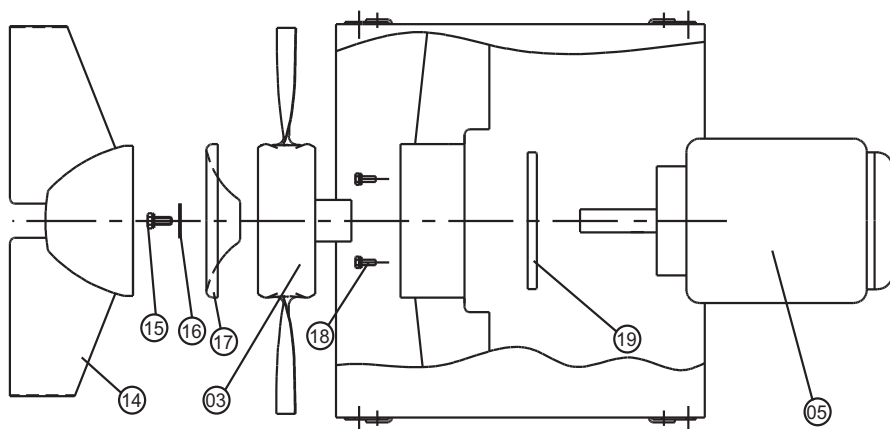

Figure 3. Dismounting/Mounting of motor
- 4 **ARR:** Remove screws in guide plates of centre fairing and pull out centre fairing figure 3, item 14.
- 5 Remove centre screw of impeller item 15 and centre disc figure 3, item 16.
- 6 **AUR:** Remove hub cover figure 3, item 17.
- 7 Dismount impeller figure 3, item 03 by means of a puller fastened in the two threaded holes of the hub boss.
- 8 Remove 4 set screws figure 3, item 18.
- 9 Dismount motor item 05 and motor flange figure 3, item 19. Note the placing of the motor prior to dismounting.
- 1 After servicing remount the motor figure 3, item 05, see that the motor flange item 19 is correctly located and that the motor shaft is concentrically placed in the fan casing before tightening the set screws item 18.
- 2 Mount the impeller figure 3, item 03 on the motor shaft by means of screws fastened in the threaded hole of the motor shaft. Fix the impeller hub to rest against the motor shaft collar. Check that the blade clearance is the same throughout the circumference of the casing. If this is not the case, adjust the motor location in the mounting frame arrangement.
- 3 Mount centre screw figure 3, item 15, centre disc item 16.
- 4 **ARR:** Mount the centre fairing figure 3, item 14.